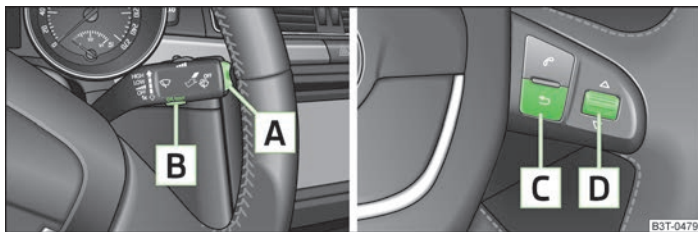

Fig. 6 Multifunction display: Control elements on the windscreen wiper lever/control elements on the multifunction steering wheel
Switching over the memory using the button **B** » Fig. 6 on page 13 on the windscreen wiper lever or using the adjustment wheel **D** on the multifunction steering wheel.
The rocker switch **A** » Fig. 6 and the button **B** are located on the windscreen wiper lever. Switching over and resetting is performed with the adjustment wheel **D** on the multifunction steering wheel.
› Press the button **B** » Fig. 6 or **D**.
› Briefly press the rocker switch **A** » Fig. 6 up or down. This opens the individual functions of the multifunction display one after the other.
› Press the button **C** » Fig. 6 to open the menu of the multifunction display.
› Press and hold the button **B** » Fig. 6 or **D** for a short while.
If the outside temperature drops below +4 °C, a snow flake symbol (warning signal for ice on the road) appears before the temperature indicator and an audible signal will sound. After pressing the rocker switch **A** » Fig. 6 on page 13 at the windscreen wiper lever or the button **C** at the multifunction steering wheel, the function shown last is indicated.
The driving time which has elapsed since the memory was last erased, appears in the display. If you wish to measure the driving time from a particular point in time, you must set the memory to zero at this point in time by pressing the button **[B]** » Fig. 6 on page 13 on the windscreen wiper lever or the adjustment wheel **[D]** on the multifunction steering wheel.
If you wish to determine the average fuel consumption over a certain period of time, you must set the memory to zero at the start of the measurement using the button **[B]** » Fig. 6 on page 13 on the windscreen wiper lever or the adjustment wheel **[D]** on the multifunction steering wheel. After erasing the memory, no value appears in the display until you have driven approx. 300 m.
The distance driven since the memory was last erased appears in the display » page 12. If you wish to measure the distance driven from a particular time, you must set the memory to zero at this point in time by pressing the button **[B]** » Fig. 6 on page 13 on the windscreen wiper lever or the adjustment wheel **[D]** on the multifunction steering wheel.
The average speed since the memory was last erased is shown in the display in km/hour » page 12. If you wish to determine the average speed over a certain period of time, you must set the memory to zero at the start of the measurement using the button **[B]** » Fig. 6 on page 13 on the windscreen wiper lever or the adjustment wheel **[D]** on the multifunction steering wheel.
- ▶ With the button **A** » Fig. 6 on page 13 on the windscreen wiper lever or the adjustment wheel **D** on the multifunction steering wheel, select the menu item **Warning against excessive speeds**.